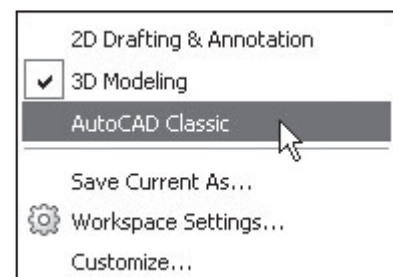

Fig. 3-4
6. On the status bar, pick the **Workspace Switching** button and select the **AutoCAD Classic** workspace, as shown in Fig. 3-4.